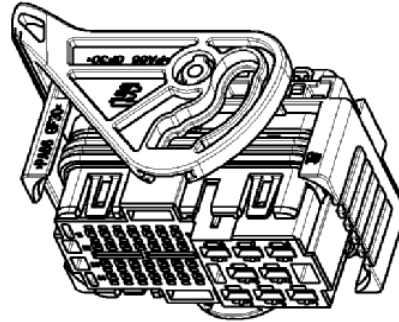
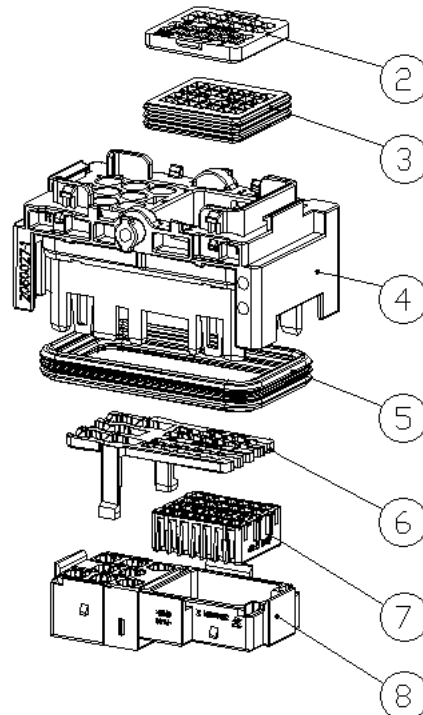

Figure 3
Figure 4
The 36pos plug body includes lever (1), MQS contact seal locker (2), MQS contact seal (3), base housing (4), inner seal (5) and secondary locker (6) and MQS contact housing (7), and front housing (8). See Figure 3, Figure 4.
参看图 3，图 4。